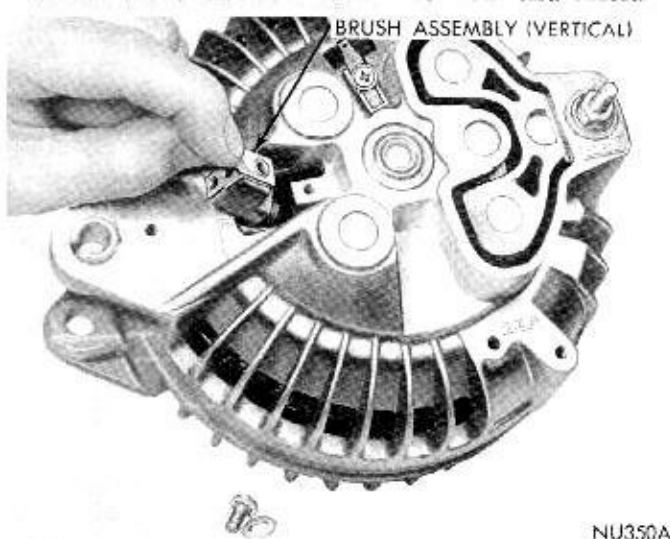

Fig. 8—Removing or Installing Field Brushes
(1) Remove retaining screw lockwasher, insulated washer, and field terminal, and carefully lift plastic holder containing spring and brush assembly from end housing (Fig. 8).
(2) Remove the brush screws, insulating nylon washers and lift brush assemblies from end shield.